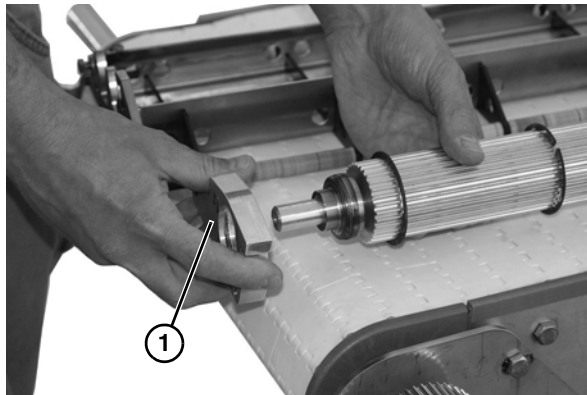

Figure 38
5. Remove bracket (Figure 38, item 1) from each side of shaft assembly by sliding it off the bearing. Be certain to note location and orientation of left and right sides.